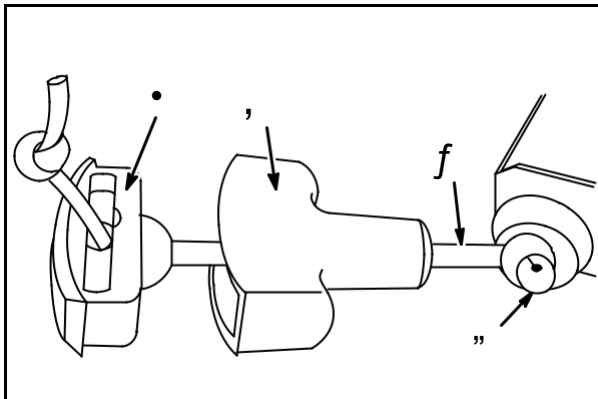

Fig. 51
Pull rope out partially. Tie a temporary knot (4), **Fig. 51**.